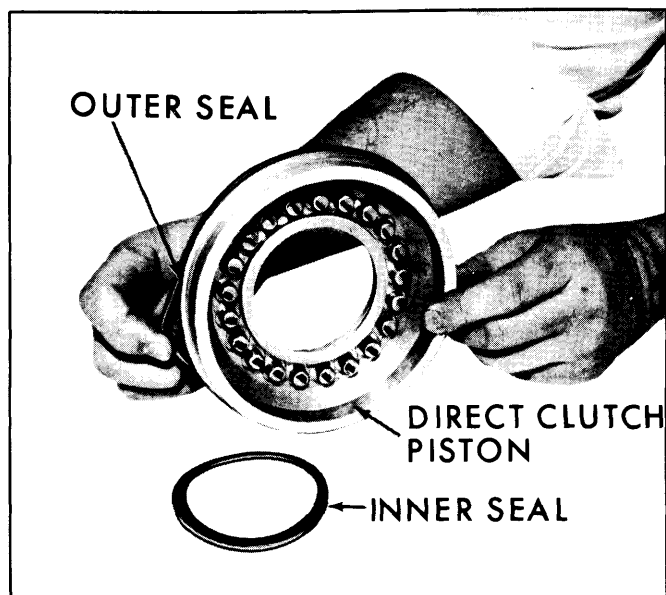

Fig. 7-73—Removing Direct Clutch Inner and Outer Seals
5. Remove direct clutch piston outer seal and inner seal. (Fig. 7-73)